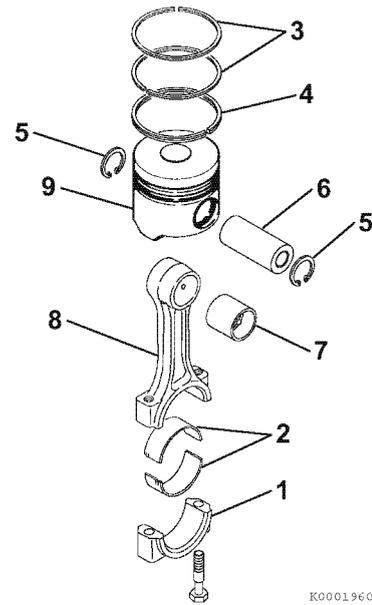

Figure 6-60
5. Remove the bearing inserts (2, **Figure 6-60**).
6. Remove the compression rings (3, **Figure 6-60**) from the piston using a piston ring expander.
7. Remove the oil ring (4, **Figure 6-60**) from the piston using a piston ring expander.
8. Remove the circlips (5, **Figure 6-60**) from the wrist pin.
9. Remove the wrist pin (6, **Figure 6-60**) and connecting rod (8, **Figure 6-60**) from the piston (9, **Figure 6-60**).